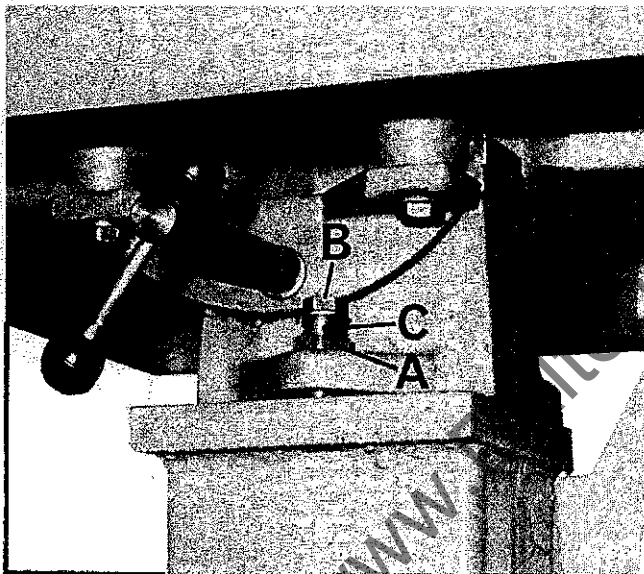

FIG 19
1. Loosen M20 Locknut "A", FIG.19, and M10 bolt "B".